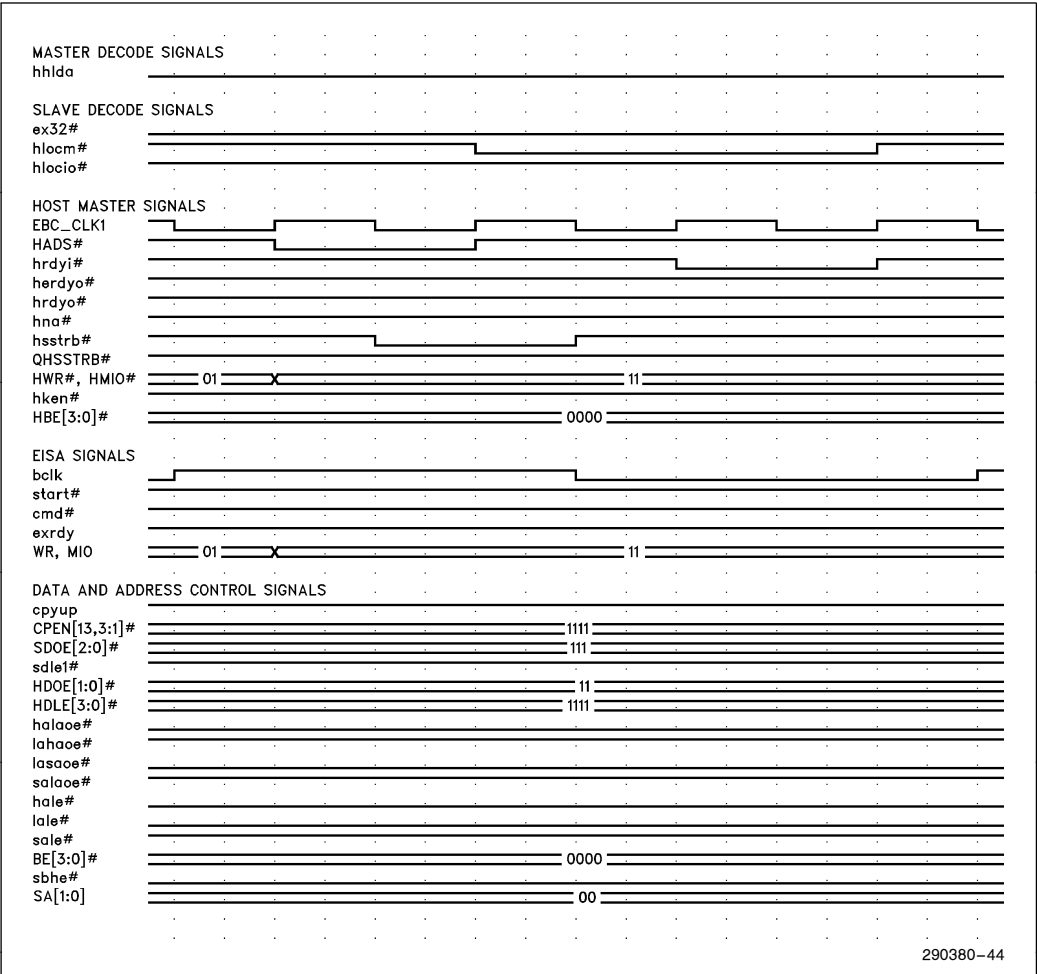

Figure 5-1. Host Master to Host Memory Slave Standard Write Cycle-Four Byte Transfer
- (1) The basic function timing waveforms, Figures 5-1 through 5-55 and 5-70 through 5-75, are test simulations. These simulations do not include any valid delays, float delays, or propagation delays normally associated with the 82358DT's outputs (i.e., the transition of an output will occur concurrently with the specific edge of the clock or signal from which this output is caused).